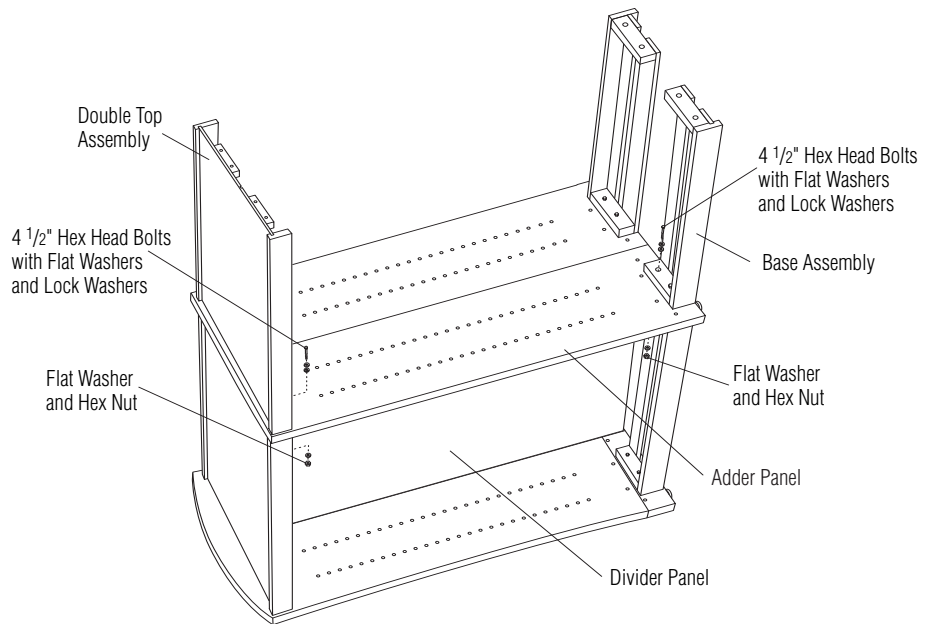

Figure 5
4. Position adder panel (has holes on both sides) by aligning the upper holes with the holes in the previously installed top assembly (Figure 5). Position the top assembly for the adder unit by aligning the holes with the holes in the adder panel.